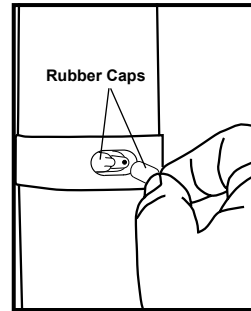

Figure 4
- Remove the 2 rubber caps from the port posts. **Do not discard rubber caps.** You will need the rubber caps to plug the port posts when disposing of used capsule (fig. 4).